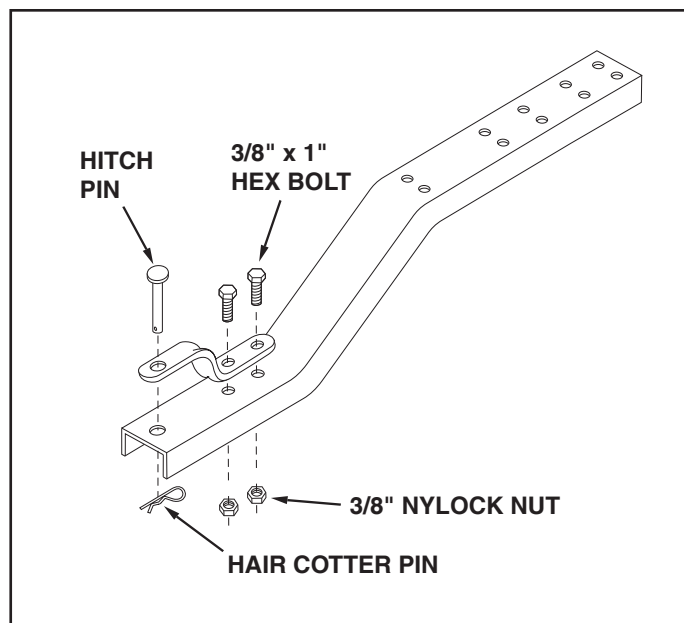

FIGURE 7
- Assemble the hitch bracket to the tongue using two 3/8" x 1" hex bolts and 3/8" nylock nuts. **Tighten**. See figure 7.
- Assemble the hitch pin through the hitch bracket and the tongue. Secure it with the hair cotter pin. See figure 7.